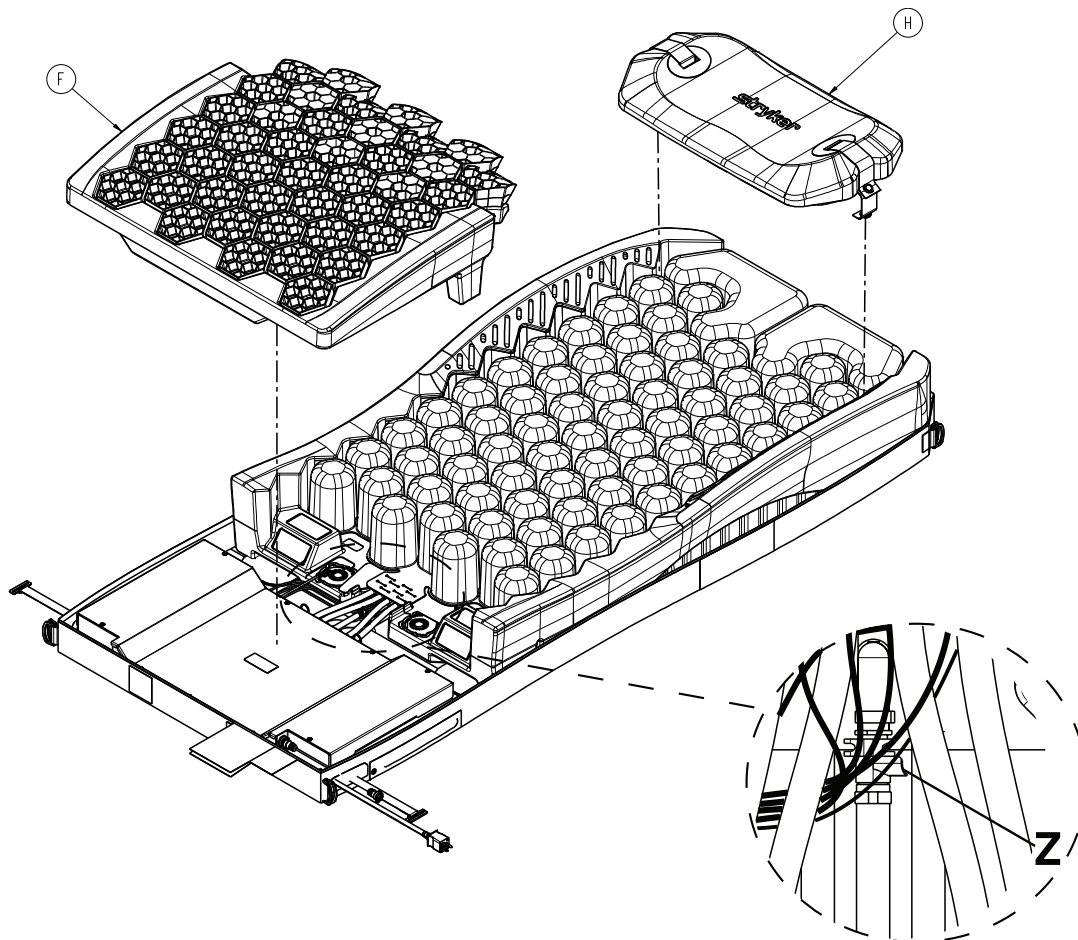

Figure 5 – Gel crib, pillow, and quick disconnect fitting
2. Unsnap the pillow (H) from the left and right side of the pod assembly (Figure 5). Save the pillow.
4. Remove the foot section gel crib (F) by lifting upward (Figure 5). Save the gel crib.
5. Disconnect the quick disconnect fitting (Z) (Figure 5).